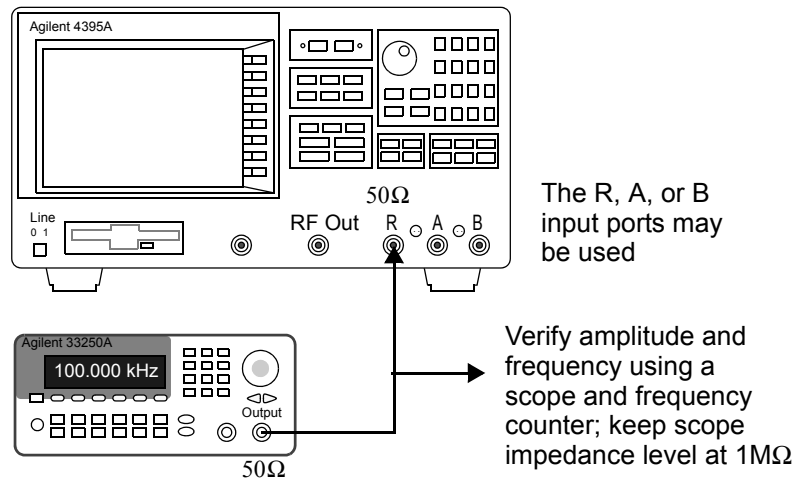

Figure 1: Agilent 4395A Spectrum measurement test setup
- Using an Agilent 33120A (up to 15 MHz operation) or Agilent 33250A (up to 80 MHz operation with a more capable user interface) function generator connect a 1v p-p sine wave at 100KHz to the spectrum analyzer input as shown in Figure 1. The 1v p-p amplitude can be set using an oscilloscope provided the scope is set for  $50\Omega$  input impedance. The generator frequency can be set using an HP 5384A frequency counter.